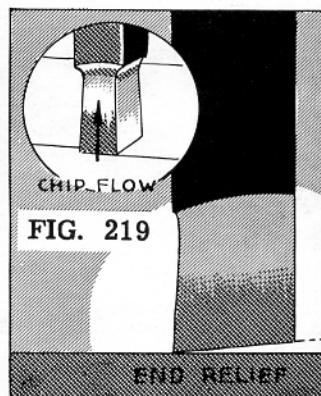

FIG. 219
-The end-relief angle is the angle between the portion of the end flank immediately below the cutting edge and a line drawn through that cutting edge perpendicular to the base. It is measured in a plane parallel to the center line of the point (Fig. 219).